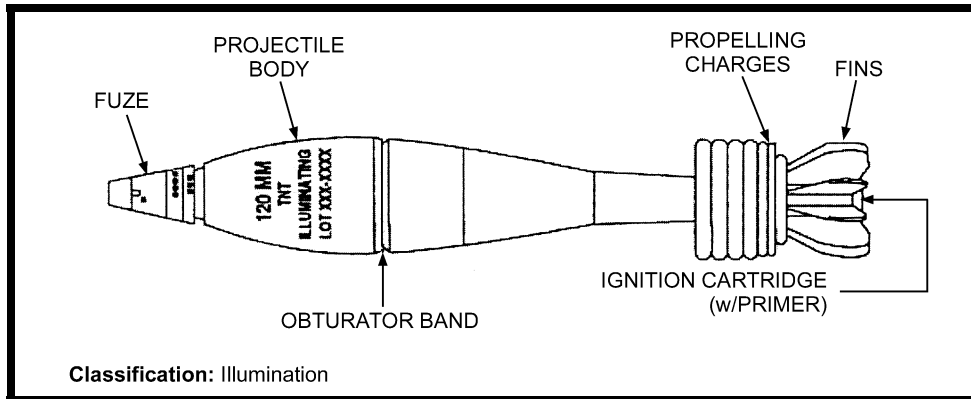
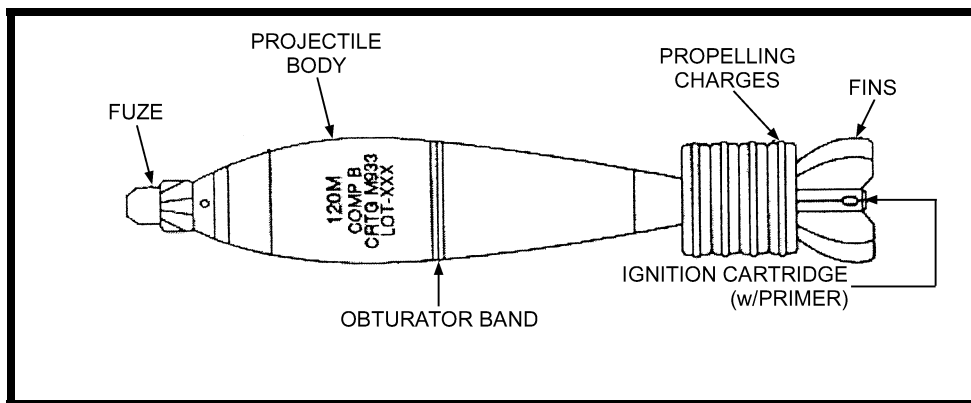

Figure 7-11. M91 illumination cartridge.
Figure 7-12. M933 HE cartridge.
c. **M91 Illumination Cartridge (NDI)** (Figure 7-11, page 7-32).
- (1) Identification: White with black markings.
- (2) Components: M776 (DM93) mechanical time superquick (MTSQ) fuze.
- (3) Maximum range: 6,200 meters at charge 8; 7,100 meters at charge 10.
(4) Remarks: Contains candle and parachute used for illumination (weight to 29 pounds [13.18 kilograms]); burn time—46 to 60 seconds; candle power—1,000,000.
d. **M933 HE Cartridge** (Figure 7-12).
- (1) Type and use: High explosive fragmentation and blast.
- (2) Identification: Olive drab with yellow markings.
- (3) Components: M745 PD fuze; M230 propelling charge.
- (4) Maximum range: 7,200 meters at charge 4.
- (5) Minimum range: 200 meters at charge 0.